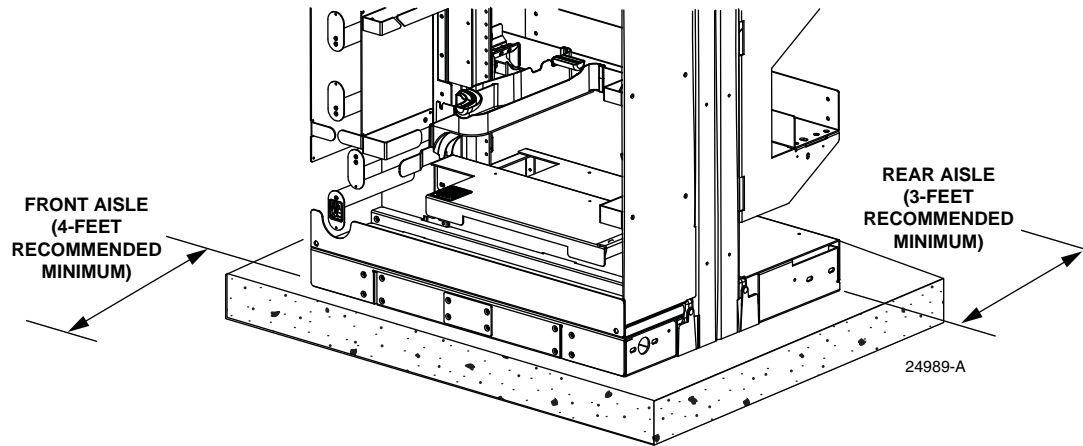

Figure 3. Determining Frame Location
1. Determine the frame location and ensure that the front and rear aisles at that location meet the recommended minimum widths shown in Figure 3.